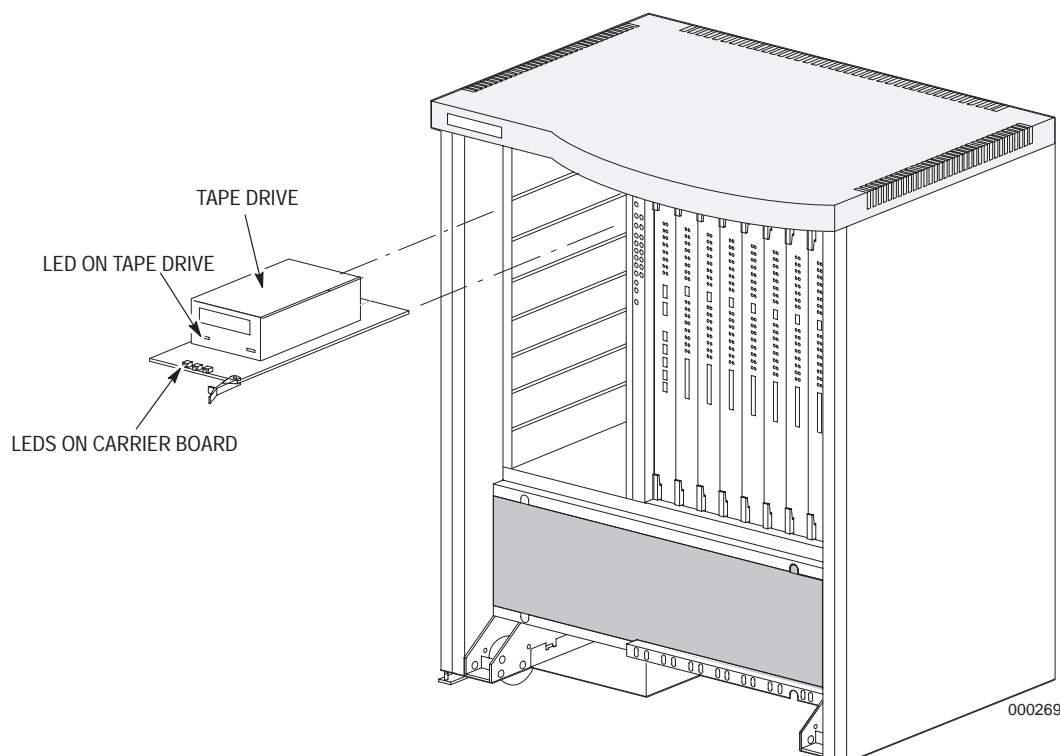

Figure 12-14. Tape-Drive Location.
4. Slide the tape drive into the top slot, numbered slot 6, as shown in Figure 12-14.